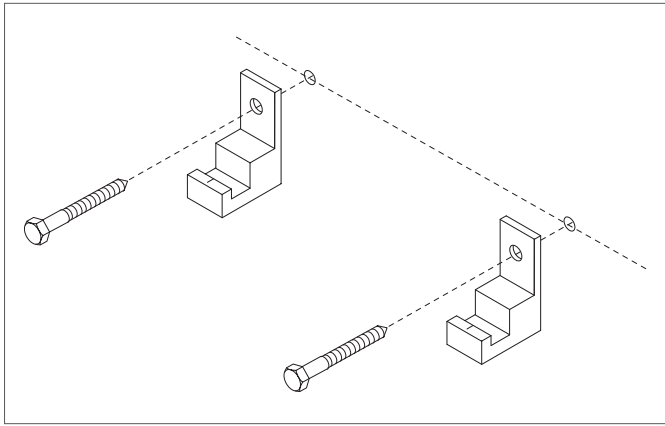

Figure 6
8. Install center spacer brackets using lag screws (provided) (Figure 6).